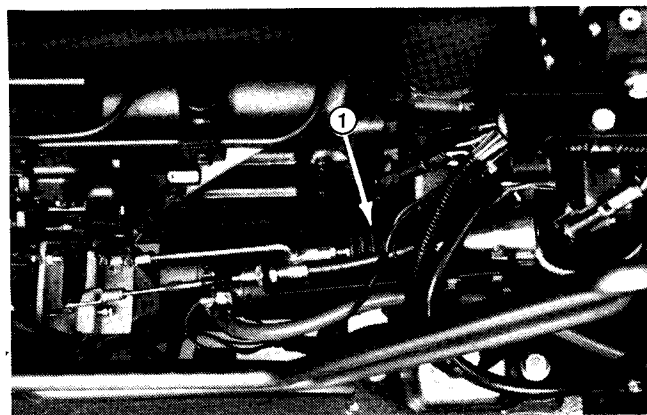

Figure 26
2. Disconnect fuel stop solenoid electrical connector to prevent fuel delivery to engine cylinders (Fig. 26).
3. Turn ignition key switch to engage starter for 10 seconds to prime pumps. Repeat this procedure five (5) times for a total cranking time of 60 seconds.